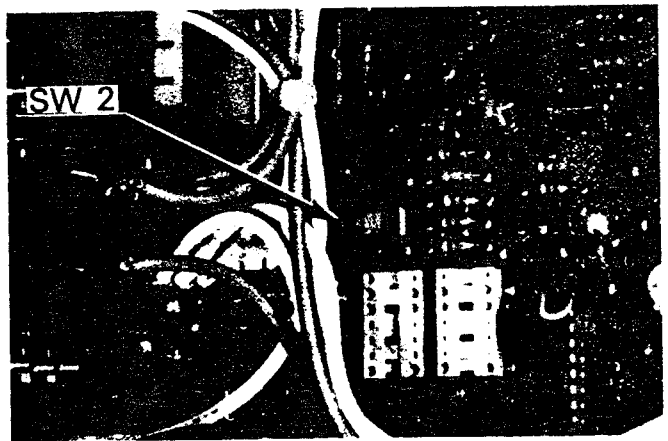

FIGURE 44—IMPEDANCE SWITCH ON MPRU
12.42 The 8-ohm output impedance must be selected with the SW2 switch on the MPRU (Figure 44). The switch must be on the side labeled "8".
12.52 Determine which output impedance is most suitable for the amplifier being used, and make the selection with the SW2 switch on the MPRU (Figure 44).